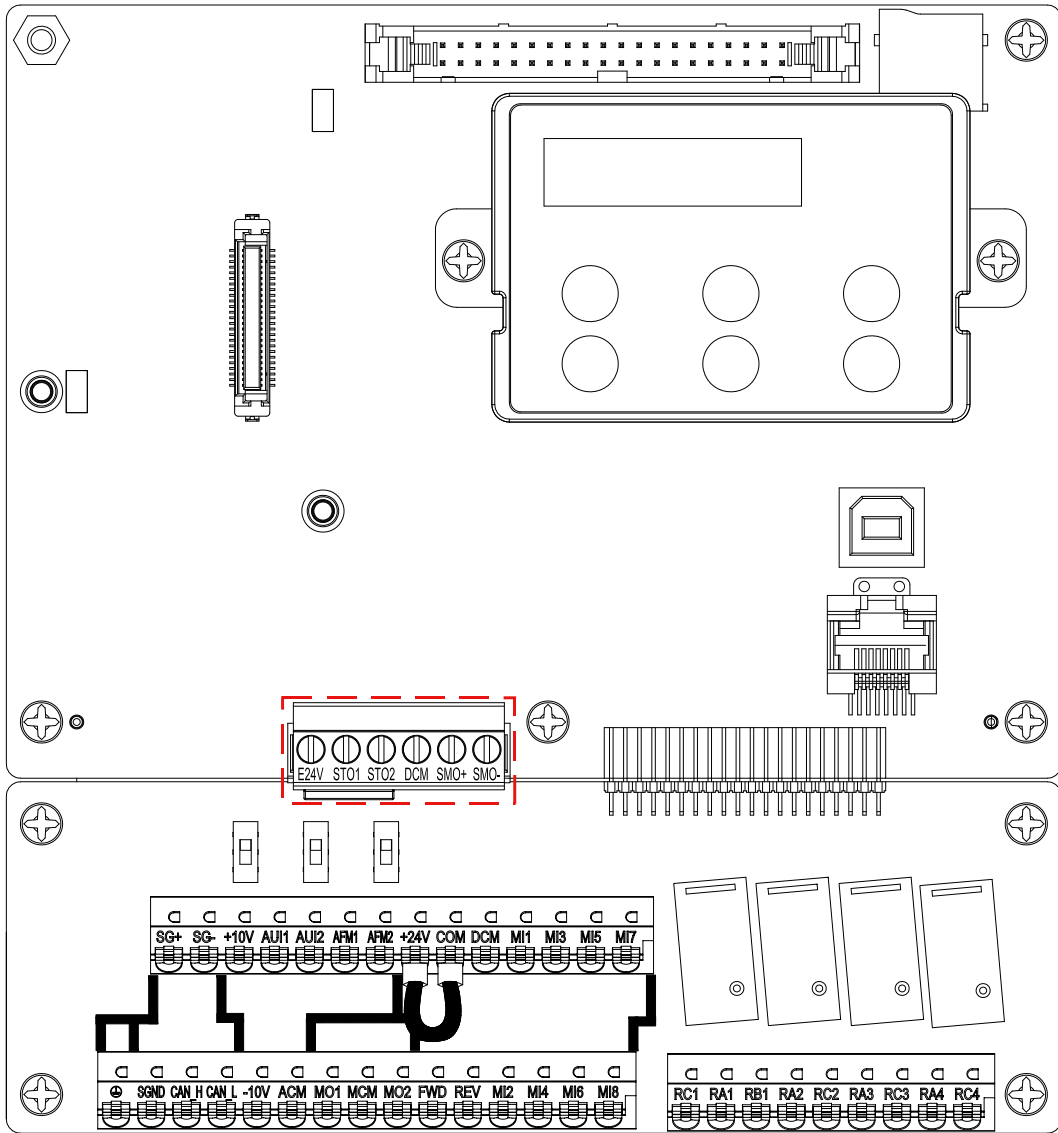

Figure 4-23
- The default for E24V, STO1, STO2 are short-circuited, as shown in Figure 4-23. The E24V power supply from group Ⓒ in the figure is for STO only, and cannot be used for other purposes.
- +24V and COM are short-circuited by default at the factory, as shown in Figure 4-23.